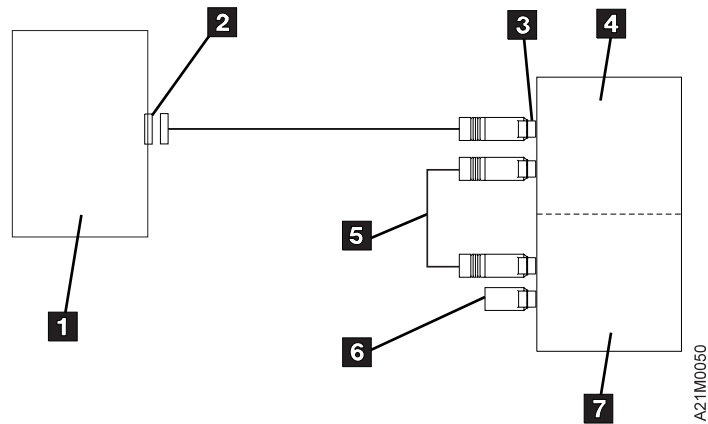
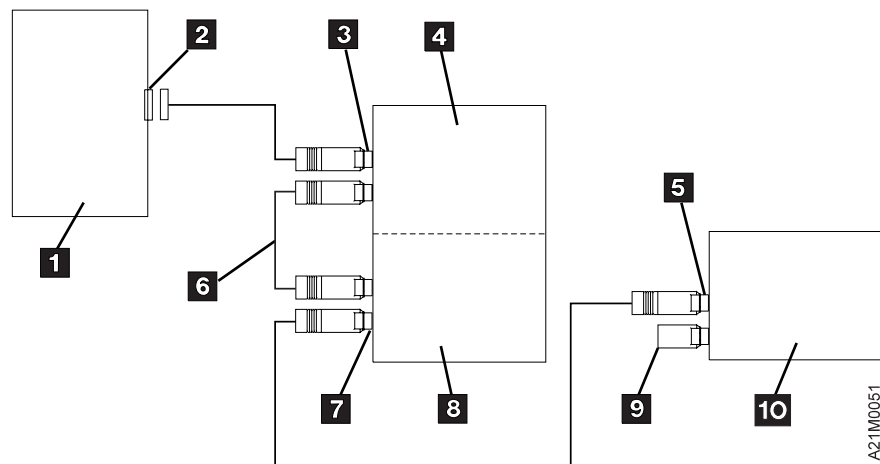

Figure 56. Example of Attaching One SCSI Device to the Host (Initiator)
Figure 57. Example of Attaching Multiple SCSI Devices to a Host (Initiator)
7. If a SCSI bus jumper is installed, remove it. See item 5 in Figure 57 on page 105.
Figure 56 on page 105 shows an example of a single 3570 Model B22 in Base Configuration attached to the host (initiator). Figure 57 on page 105 shows an